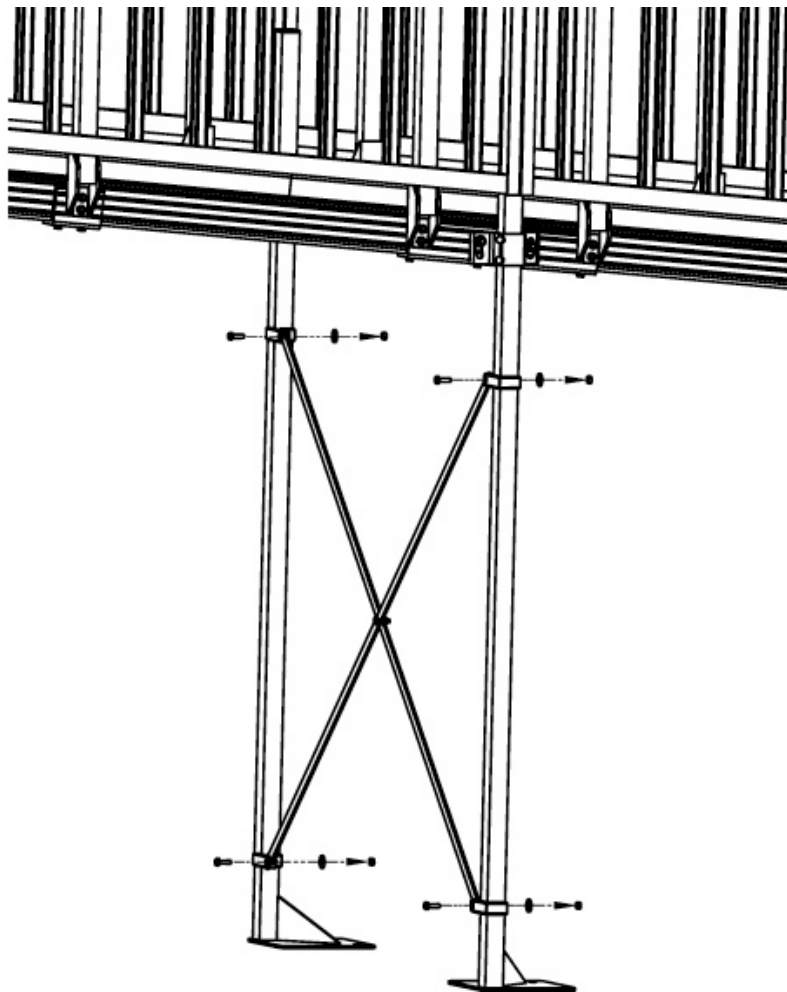

FIG. 20
- 4.15.2 Separate the ends of brace bands until they go around the 1-1/2" square tube and install two bands on each leg. Orient the band so that the legs with the holes extend under the ramp (FIG. 20).
- 4.15.5 Install brace assembly using four 5/16"-18 x 1-1/2" long carriage bolts, nuts and washers in the desired location (FIG. 20).